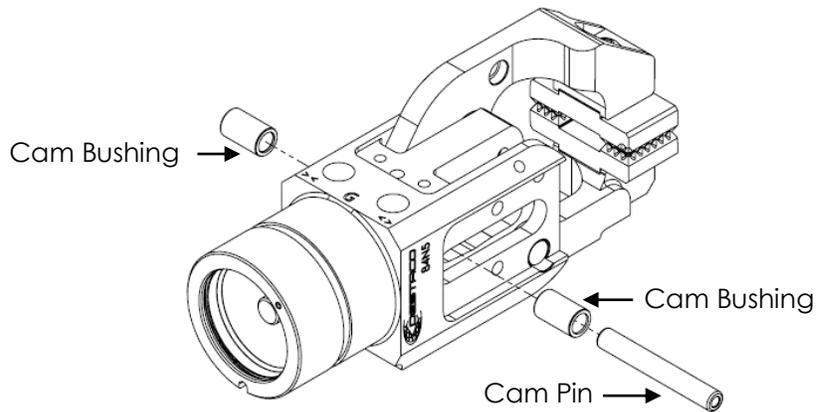

Fig.45
17. Insert the cam pin through the Clevis CAM Driver and the upper and lower jaw cam slots (see Fig.45).
18. Insert the cam bushing on each cam pin end until the bushings rests against the side of the clevis cam driver (see Fig.45).